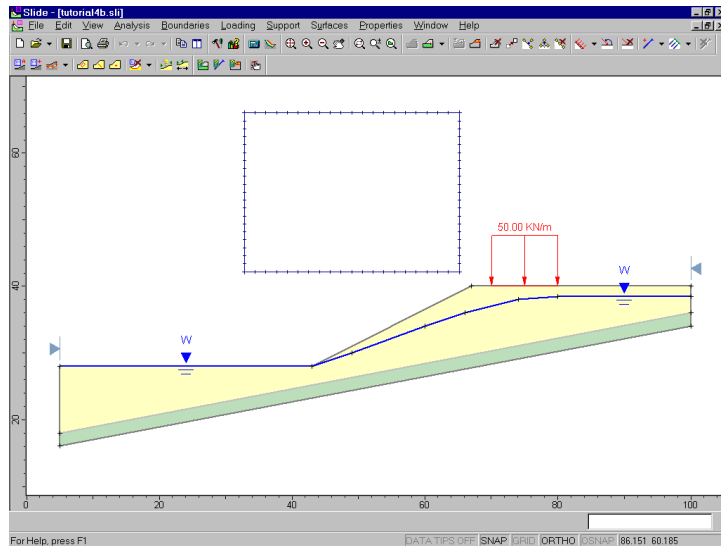

Figure 4-6: Modified grid for composite surfaces example.
3. When the grid corner is slightly over to the right of its original location (near the crest of the slope, see Figure 4-6), left-click again and the grid will be redrawn. It should look similar to Figure 4-6.